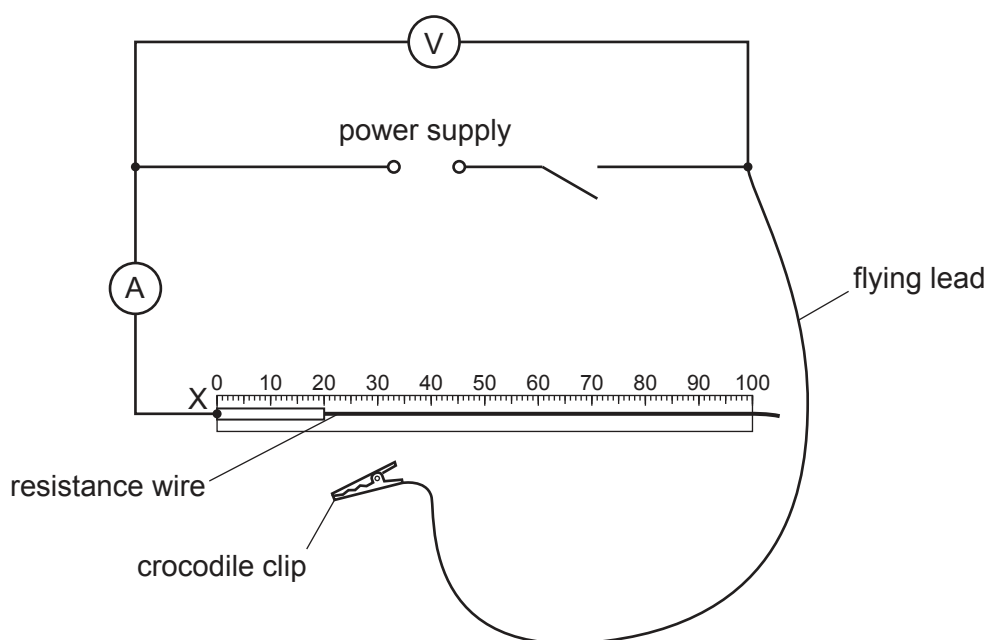

Fig. 3.1
- sufficient connecting leads to set up the circuit shown in Fig. 3.1 (see Note 6)
- 6 The circuit is to be set up for candidates as shown in Fig. 3.1 with the crocodile clip disconnected from the resistance wire. The end of the wire at the 0 cm mark on the rule must be labelled X.
Ensure that the circuit is connected as shown in Fig. 3.1.